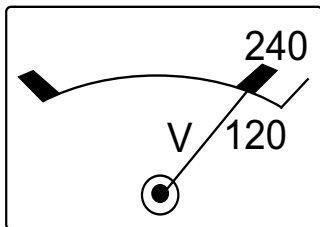

Figure 52. Voltmeter 120/240
5. Also verify that the AC voltmeter is registering a voltage reading as indicated by Figure 52.